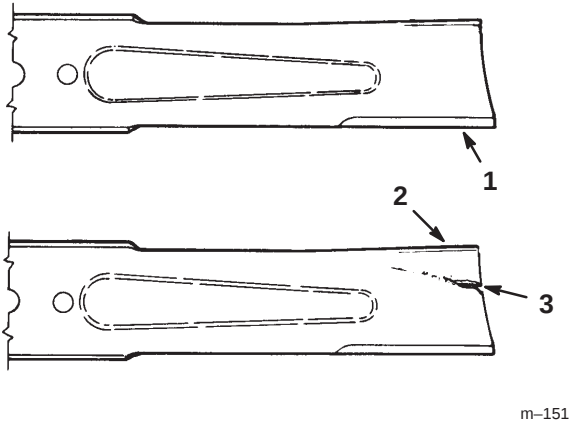

Figure 45
1. Inspect the cutting edges (Fig 45). If the edges are not sharp or have nicks, remove and sharpen the blades. Refer to Sharpening the Blades on page 35.
2. Inspect the blades, especially the curved area (Fig. 45). If you notice any damage, wear, or a slot forming in this area (item 3 in Fig. 45), immediately install a new blade.